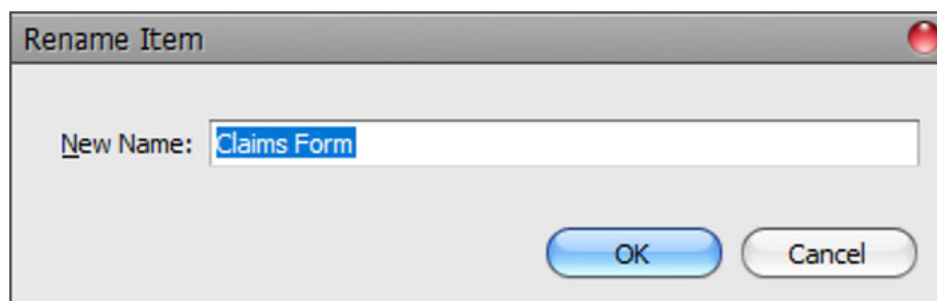

Figure 5-14: Rename Item window
2. Select **Rename Job**. The **Rename Item** window appears (Figure 5-14).